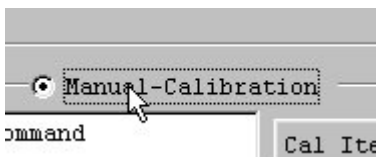

Fig.6.3 To select Manual calibration radio button
3. Click on the radio button “Manual Calibration” as figure 6.3.